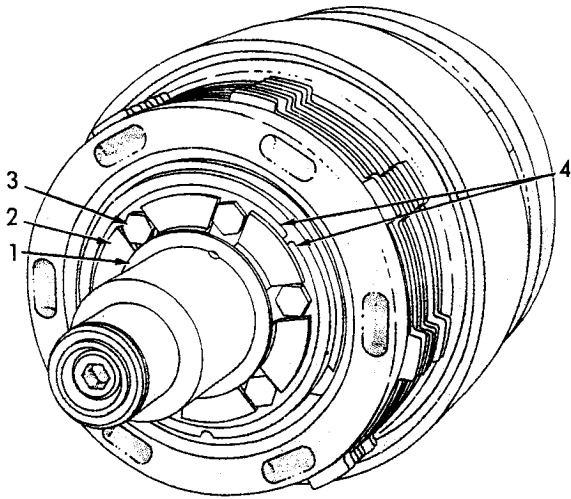

Fig. 33 -- Clutch Shaft Assembly - Clutch Drum and Gear Removed (T-72341)
- b. Refer to Fig. 33, slide thrust washer and lock plate from shaft; remove capscrews (3). Press clutch hub back plate down by hand and remove clutch hub retainer (4); remove clutch assembly from shaft.
i. Press clutch hub back plate down and install clutch hub retainers, Fig. 33 (4) in groove in shaft. Align bolt holes in retainers with holes in clutch hub; draw clutch hub up